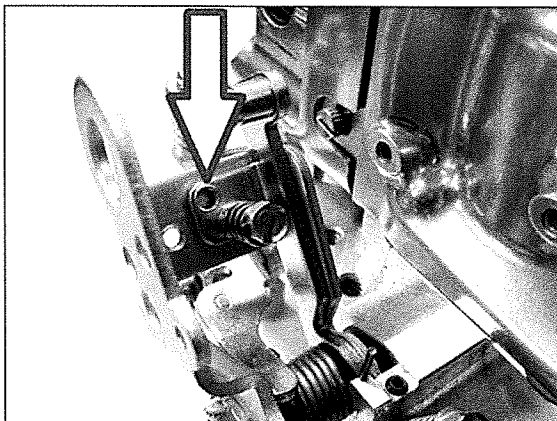

Figure 4
1. Unlock transmission kickdown lever by removing screw and spring and relocating to additional hole in the transmission kickdown lever (Figure 4).